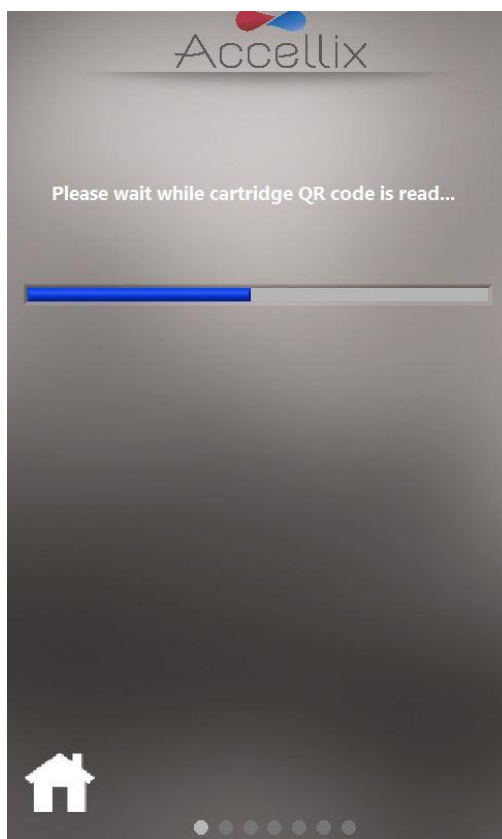

Figure 35: Reading Cartridge QR Code screen
5. The screen instructs the user to wait while the instrument reads and registers the QR code information on the cartridge (Figure 35).